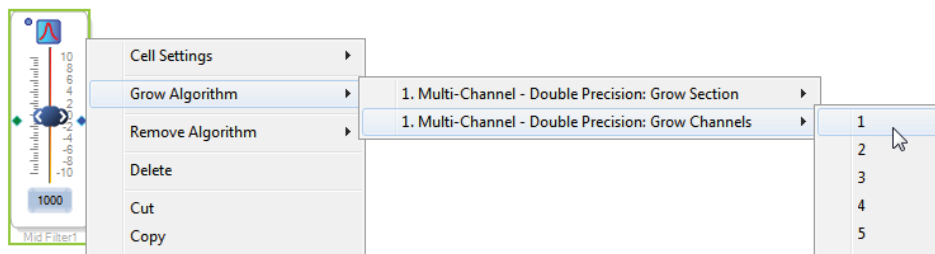

Figure 53. Adding a Channel to the Filter
- b. By default, the block has one input and one output (single-channel). To add another channel, right click in the empty white space of the **Medium-Size Eq** block, then select **Grow Algorithm > 1. Multi-Channel - Double Precision: Grow Channels > 1** from the dropdown menu that appears (see Figure 53).